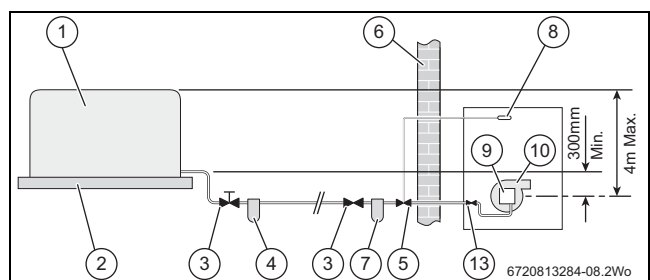

Fig. 3 Single pipe feed
**Key to Oil supply illustrations, figures 3, 4 & 5**